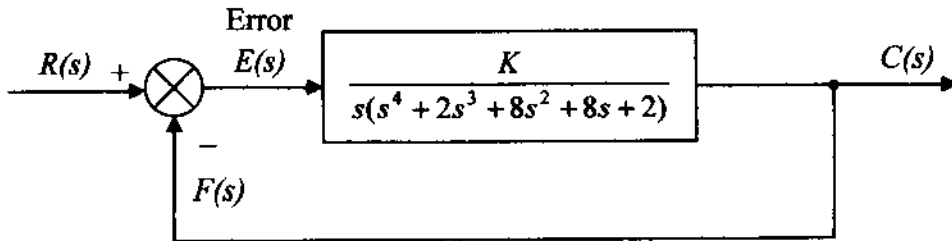

FIGURE Q4(b)
- (b) The simplified form of a block diagram for a position servomechanism is shown in Figure Q4(b).